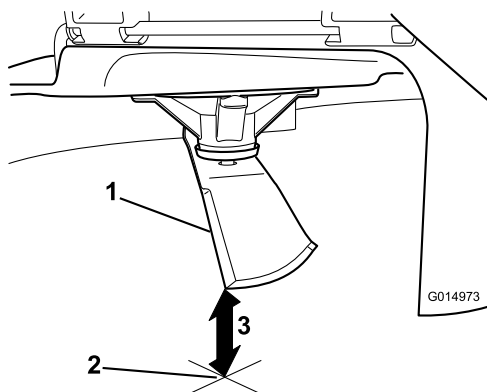

Figure 76
3. Measure from the tip of the blade to the flat surface (Figure 76).